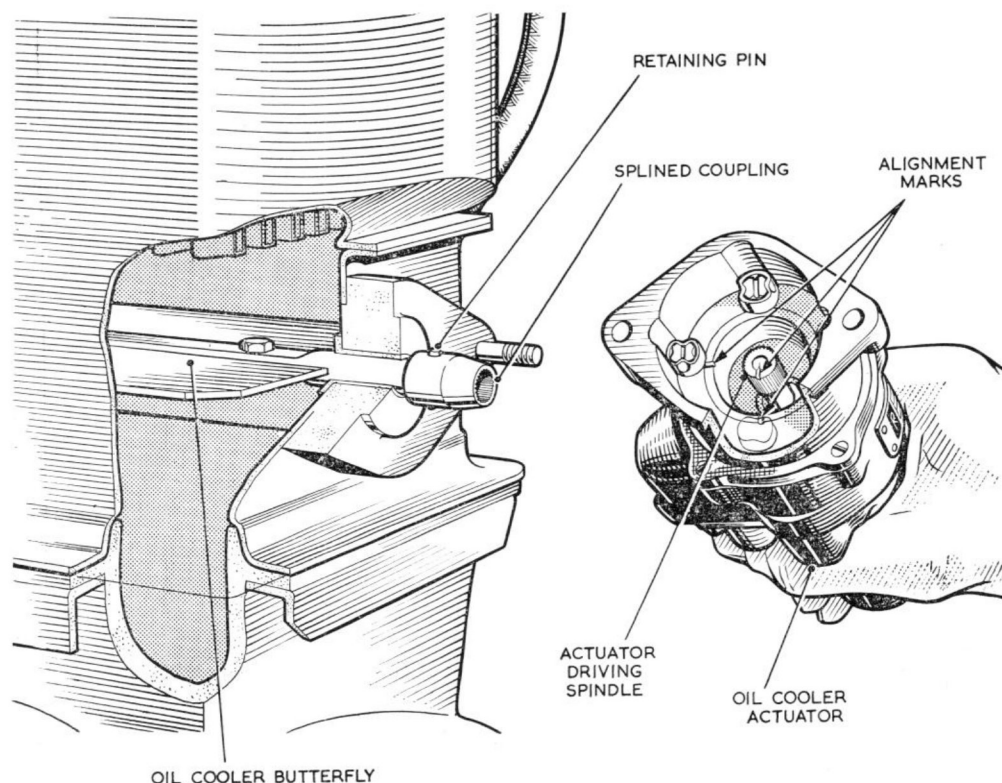

Fig. 1. Fitting the oil cooler actuator
1. (1) Cut the locking wire and disconnect the electrical cable from the actuator.
- (2) Knock down the tabwashers and release the two nuts securing the actuator to the oil cooler body.
- (3) The actuator can now be withdrawn rearward over the mounting studs until it is clear of the oil cooler (fig. 1).
(a) Hold the actuator, and using a 24 volt electrical supply, attach one electrical cable to the common terminal pin 'A' and the other to pin 'B'. Allow the actuator to motor until it cuts out, then check that the inscribed mark on the actuator drive spindle coincides with one of the inscribed marks on the actuator body (fig. 1).